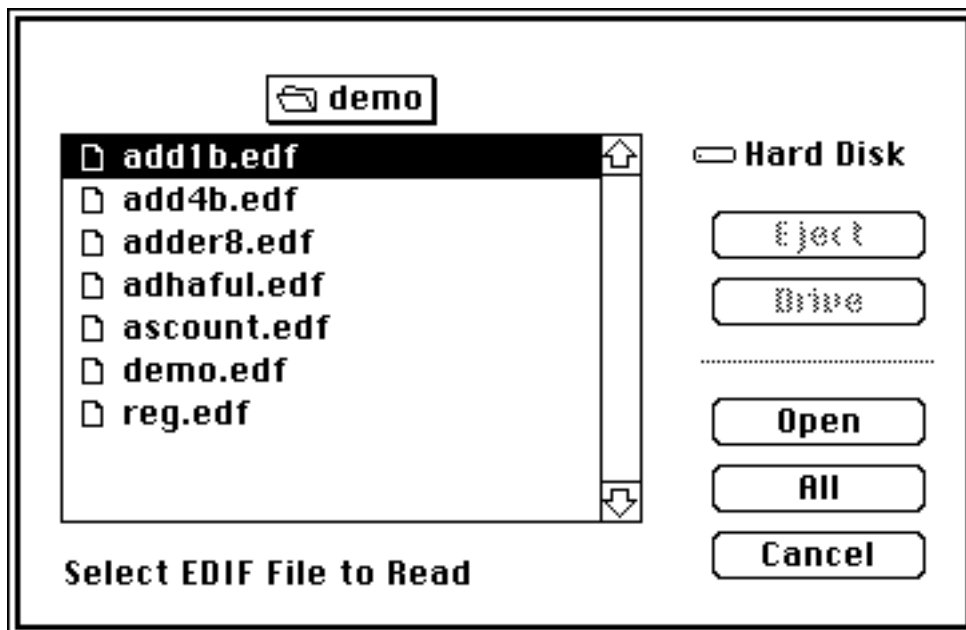

Figure EDIF-2 Dialog Box for SYM to ASCII
1. Double click on the desired application in the main ECS folder. This invokes the application and pops up a dialog box as shown in Figure EDIF-2.